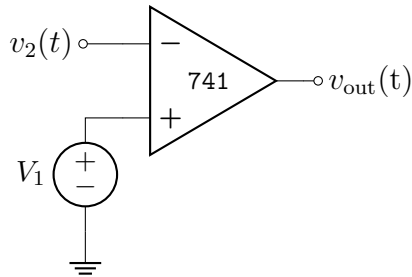

Figure 5: Voltage comparator circuit
- Construct the voltage comparator circuit shown in Fig. 5. The white power supply has a separate, single-output DC voltage supply (left side of the box). The voltage of this single-output supply is variable  $\pm 9 \text{ V}$  (might be  $\pm 5 \text{ V}$ ). Use this to provide the reference voltage,  $V_1$ , for the comparator. It will help you understand the circuit if you monitor  $V_1$  using a third channel on the scope, even though the voltage is constant in time. Use the function generator to apply a sine wave,  $v_2(t)$ , to the inverting input. Use a frequency,  $f = 200 \text{ Hz}$ , and amplitude,  $|v_2| = 4 \text{ V}$ , peak-to-peak. Observe what happens at  $v_{\text{out}}(t)$  as you increase and decrease  $V_1$ . Write a brief explanation in your log notebook of the comparator circuit's function. Make a sketch of the input and output voltages for one particular comparator